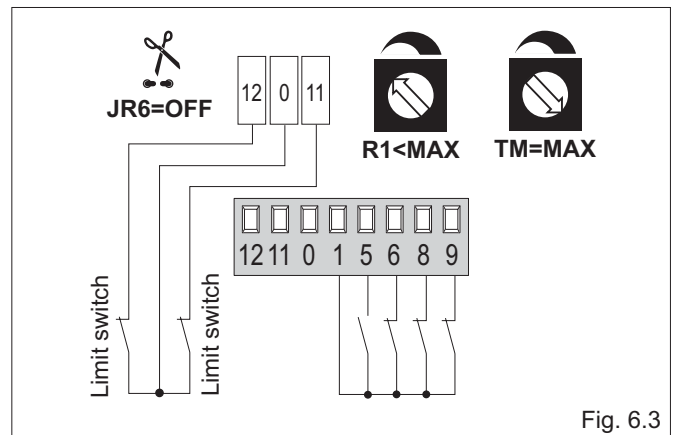

Fig. 6.3
- (Fig. 6.3) connect opening and closing limit switches N.C. contacts to plug 12-0-11;